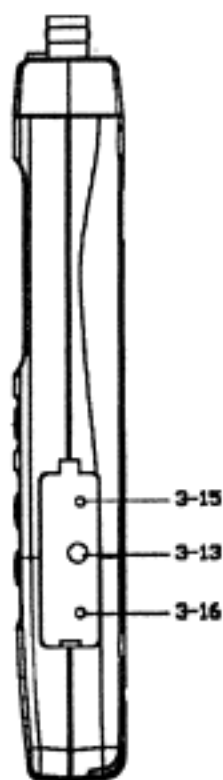

Fig. 3
- 6) * For measuring the PH7 standard solution, adjust the PH 7 VR (3-15, Fig. 3) until the display value within PH6 to PH8.
- * For measuring the PH4 standard solution, adjust the PH 4 VR (3-16, Fig. 3) until the display value within PH3 to PH5.
- * For measuring the PH10 standard solution, adjust the PH 10 VR (3-16, Fig. 3) until the display value within PH9 to PH11.